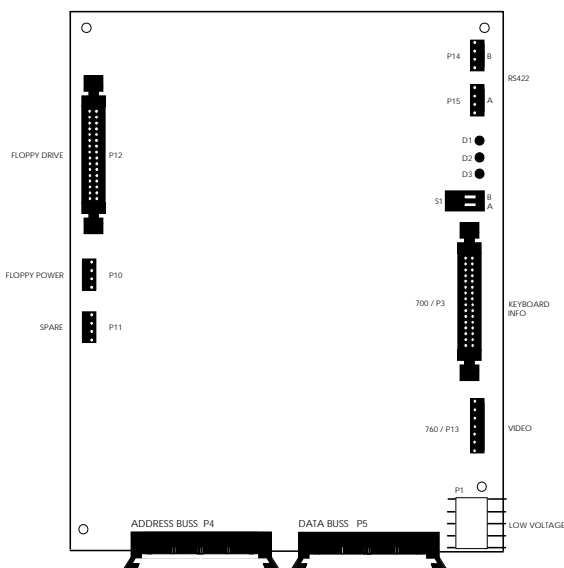

Fig. 4-2 Video board.
12. Reconnect all leads (previously removed) to their proper connections (refer to Fig. 4-2).